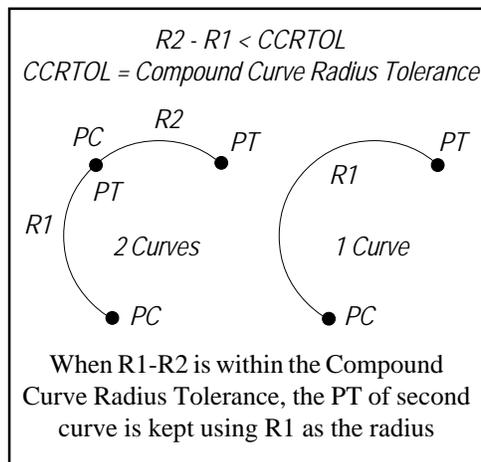

Figure 16 - Compress Compound Curve Parameter
d. Shown in Figure 16 is a sample of how the Compress Compound Curve parameter can be used to compress compound curves into a single curve definition.